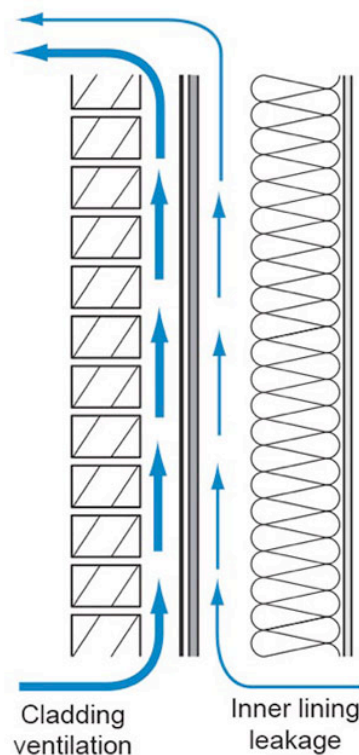

Figure 11: Further Simplification of Airflow Pathways—The operative phrase is “further simplification of airflow pathways”.
Back to the airflow issue. The challenge is to model a complex three-dimensional phenomenon in a one-dimensional model. There are twelve (12) typical airflow pathways that need to be considered in multi-layer systems (**Figure 9**). These airflow pathways arguably can be combined for modeling purposes as shown in **Figure 10**. Note the cladding ventilation component that has been added. The flows in **Figure 10** can further be simplified as shown in **Figure 11**.
With this airflow element added WUFI allows us to approximate the flows in **Figure 11** as shown in **Figure 12**.